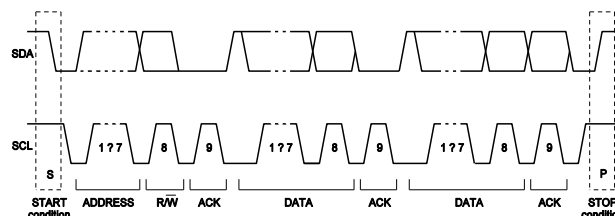

Figure 15: Complete Data Transfer
Data transfers follow the format shown in Figure 15. After the start condition (S), a slave address is sent. This address is seven bits long followed by an eighth data direction bit (r/w). A zero indicates a transmission (write), and a one indicates a request for data (read). A data transfer is always terminated by a stop condition (P) generated by the master. However, if the master still wishes to communicate on the bus, it can generate a repeated start condition (Sr) and address another slave without first generating a stop condition.